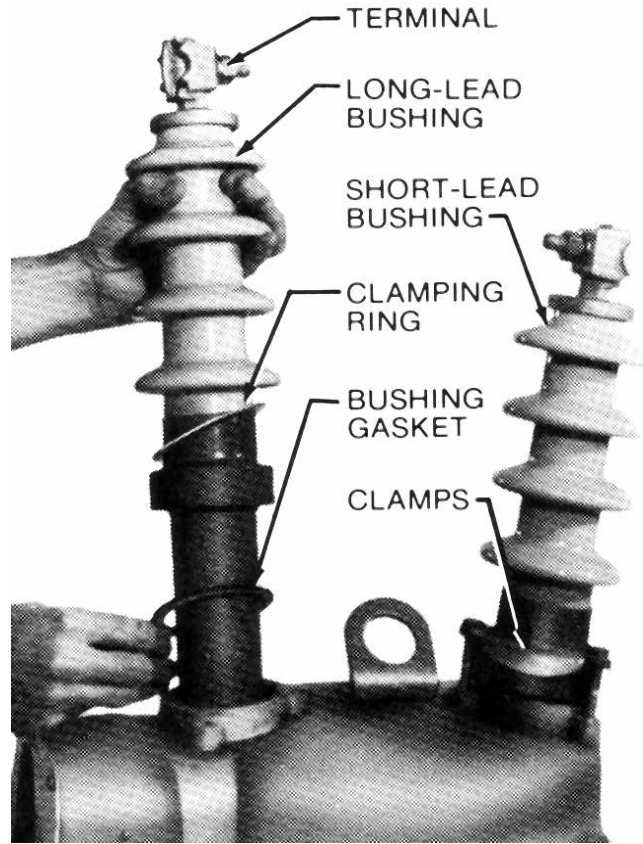

Figure 31. Lifting a bushing assembly
2. Remove the three bolts that secure the bushing clamps and lift the bushings out of the head casting (Figure 31).